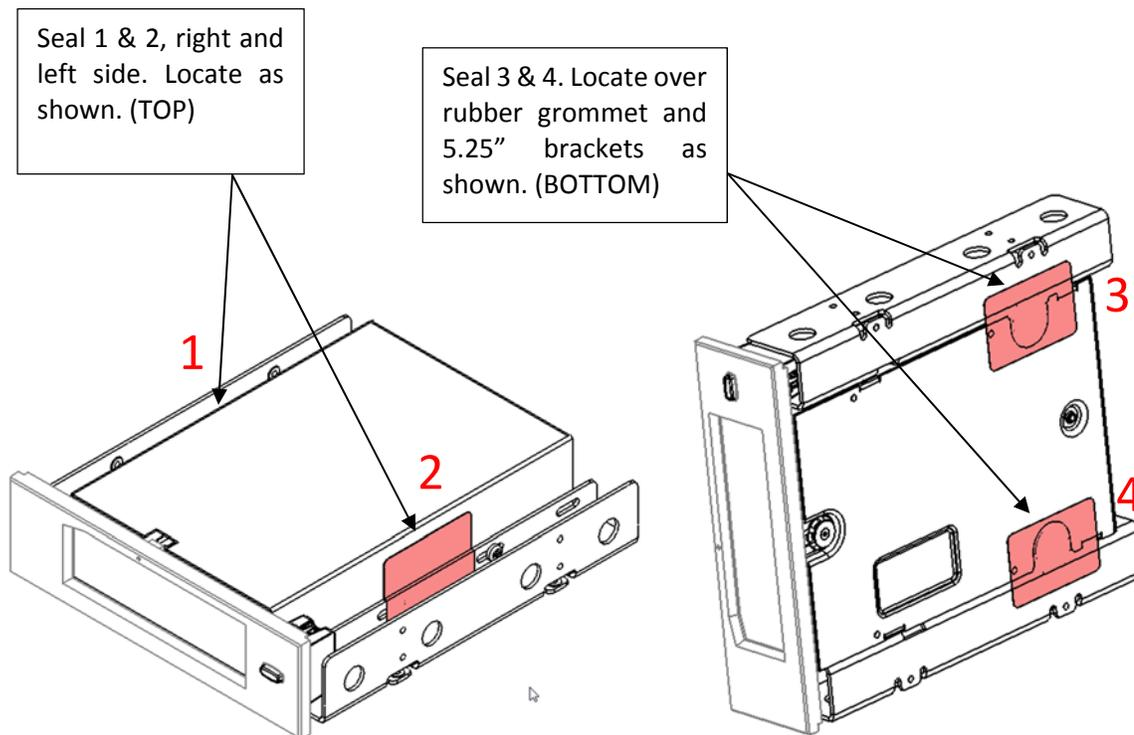

Figure 5: RDX 5.25 Inch Tamper-Evident Seal Locations
5.2 RDX 5.25" (Four (4) Tamper-Evident Seals Required)
The SATA III RDX 5.25 Inch has four (4) tamper-evident seals applied to the module, two on the top and two on the bottom (Figure 5).